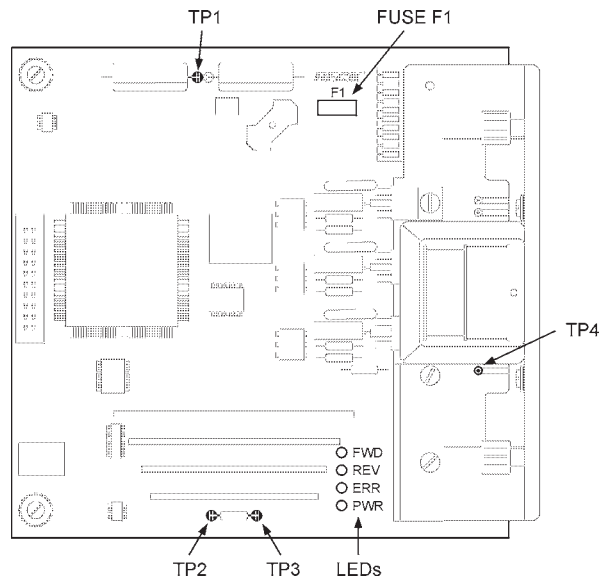

Figure 11
6. Rotate the rotor on the control shaft until the output voltage measured across TP4 and TP1 (see Figure 11, page 54) reads 50% (approx. 3 volts) of signal span, then tighten the clamp to 5 lb-in torque.